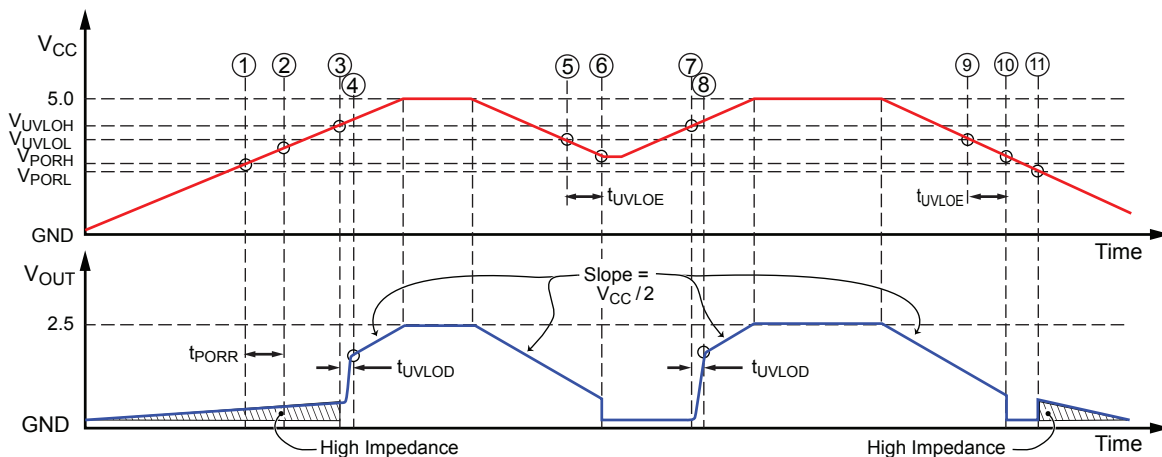
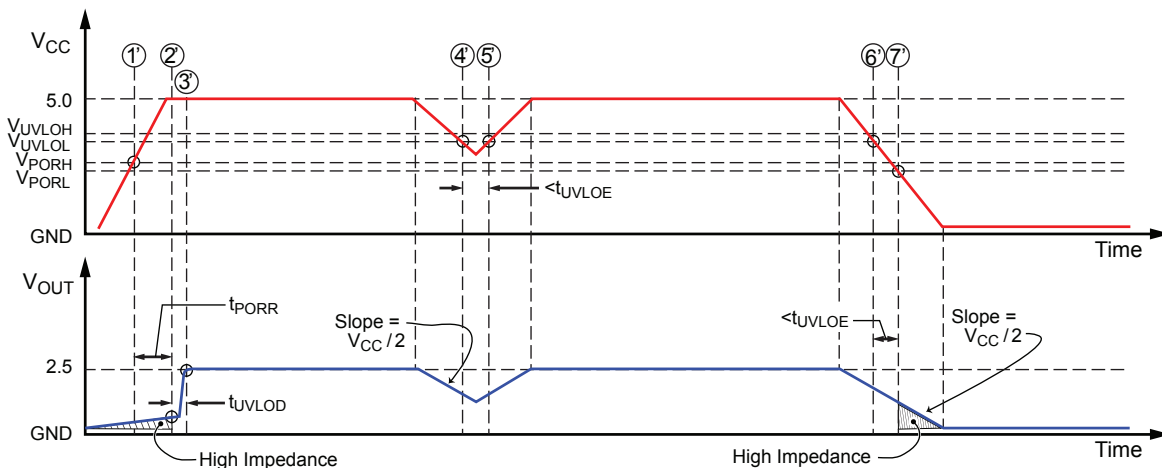

Figure 8: POR and UVLO Operation: Slow Rise Time Case
Figure 9: POR and UVLO Operation: Fast Rise Time Case
- Power-Up** At power-up, as V_{CC} ramps up, the output is in a high impedance state. When V_{CC} crosses V_{PORH} (location [1] in Figure 8 and [1'] in figure 9), the POR Release counter starts counting for t_{PORR} . At this point, if V_{CC} exceeds V_{UVLOH} [2'], the output will go to $V_{CC}/2$ after t_{UVLOD} [3']. If V_{CC}